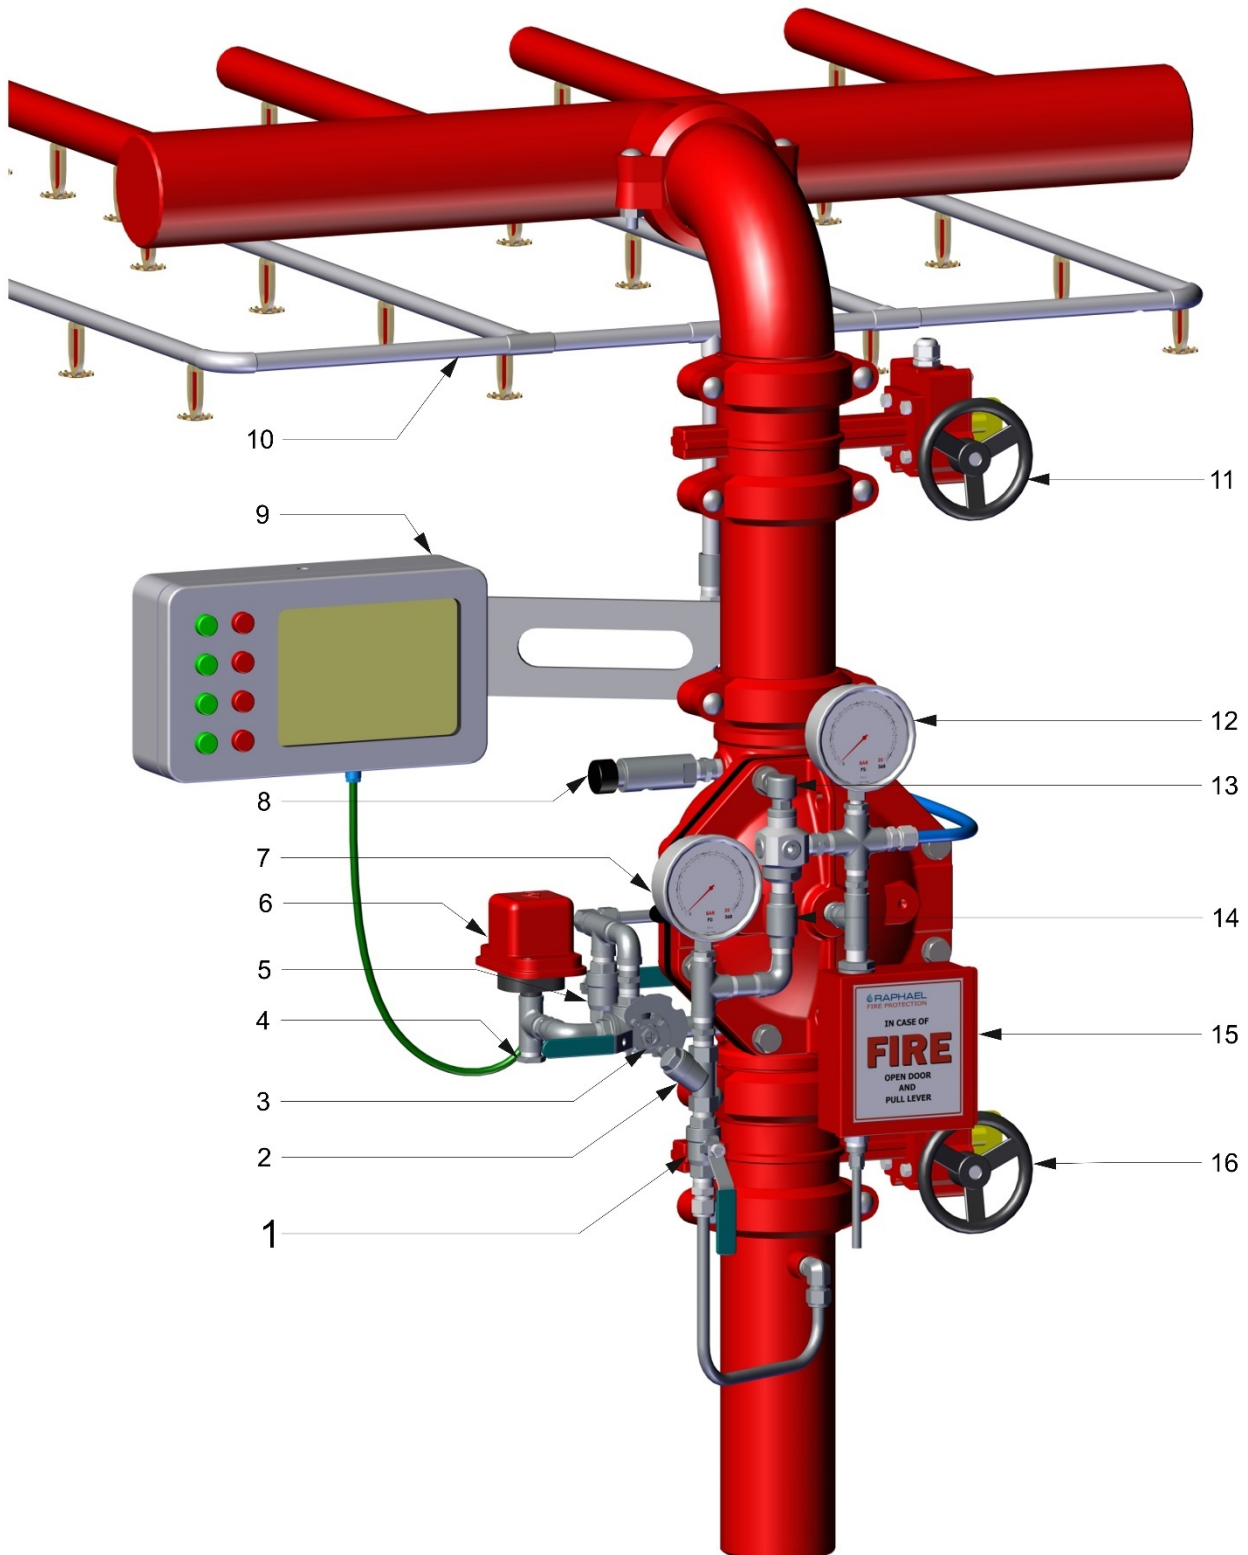

Fig 2.
The first step in the trim’s reset procedure is closing the Upstream Butterfly valve (16 figure 2) and the trim pressure supply ball valve (8).
Finally, the Upstream Butterfly valve (16 figure 2) should be opened, and the systems is in SET position.
## Installation (Reference Figure 2)
8. All connections to water supply, should be done in accordance with figure 2
(reference - figure 2)
*The procedure described should be carried out after system installation completion and a comprehensive inspection.* (Reference Drawing - figure 2)
### Fire Situation Simulation (Reference Drawing - figure 2)
(Reference drawing - figure 2)
### Resetting & placing in service (Reference Drawing - figure 2)